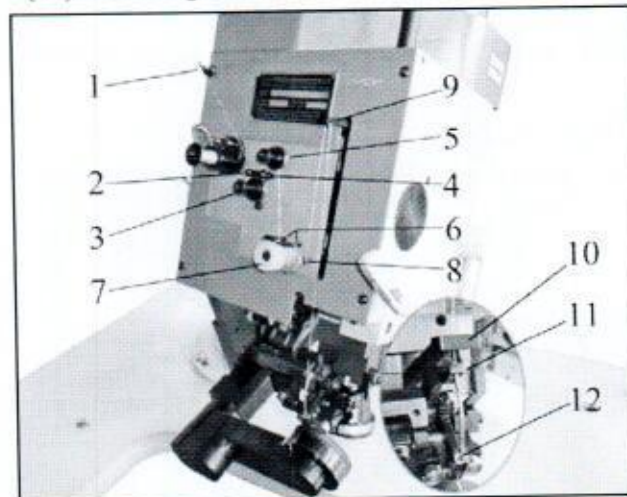

Fig.3
3.3 Needle thread preparation (Fig.3)
- Threading the needle thread by the path indicated in Fig.3
- (1) Threading ring (2) Threading rod (3) Tightener 1 (4) Threading rod (5) Tightener 2 (6) Threading carrier (7) Threading wheel (8) Thread take-up spring (9) Thread take-up lever (10) Threading block (11) Threading hole of needle holder (12) Needle
3.4 Tension adjustment setting of the needle thread (Fig.3)
Needle thread tension can be adjusted by turning Tightener 1 and Tightener 2. (Fig.3)